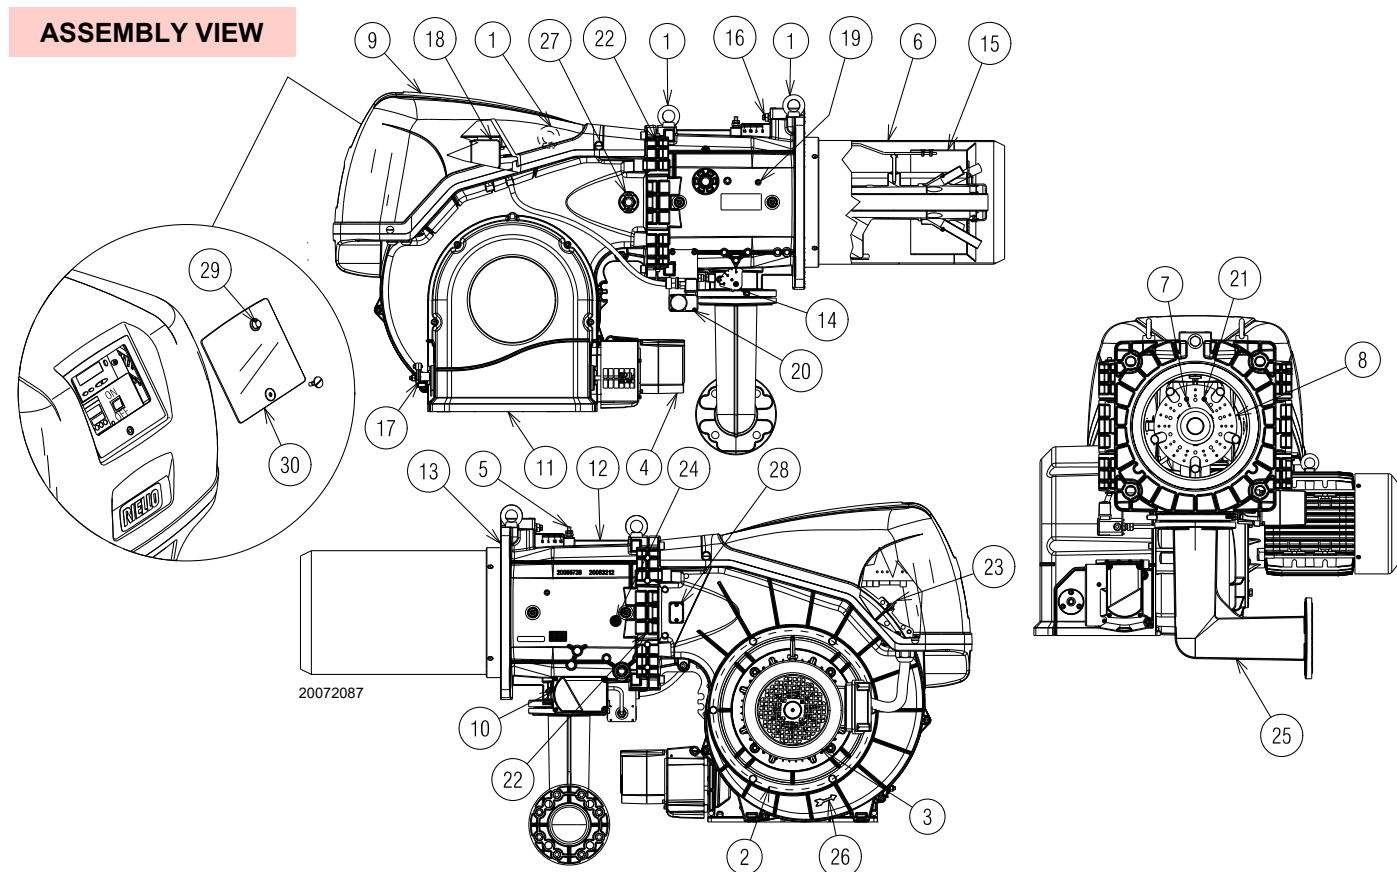

Fig. 5
- (1) Reference conditions: Room temperature 20°C - Gas temperature 15°C - Barometric pressure 1013 mbar - Altitude 0 m a.s.l.
(2) Pressure at the test point of the pressure switch 5)(Fig. 5 on pag. 14) with zero pressure in the combustion chamber and at maximum burner output.
(3) Sound pressure measured in manufacturer's combustion laboratory, with burner operating on test boiler and at maximum rated output. The sound power is measured with the "Free Field" method, as per EN 15036, and according to an "Accuracy: Category 3" measuring accuracy, as set out in EN ISO 3746.